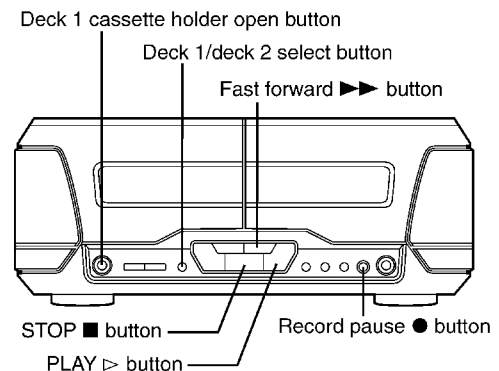

Fig. 5-2.
1. Press the Deck 1/deck 2 select button to change the flashing Deck 2 indicator to Deck 1. Refer to Fig. 5-2.
2. Press the Deck 1 cassette holder open button to open the Deck 1 cassette holder. Refer to Fig. 5-2.
4. Press the Fast forward button. Refer to Fig. 5-2.
5. Press the PLAY button. Refer to Fig. 5-2.
8. Press the Record pause button. Refer to Fig. 5-2.
9. Press the STOP button. Refer to Fig. 5-2. A mechanism error code is displayed. Refer to Table 5-1. Each time the STOP button is pressed, the fault items are displayed in sequence.